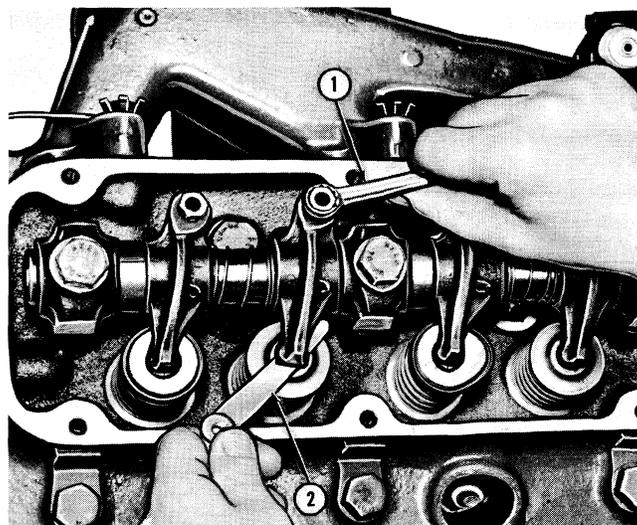

Figure 18
6. Rotate the engine and set the preliminary valve lash, Figure 18, to the specified limits, page 62.